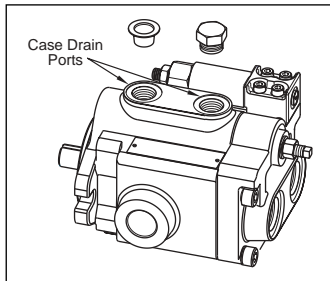

Figure 4
1. Drain pump body (1) via Case Drain Ports. (Figure 4)
3. Remove four compensator screws (71) and then remove compensator (28) and O-rings (32).